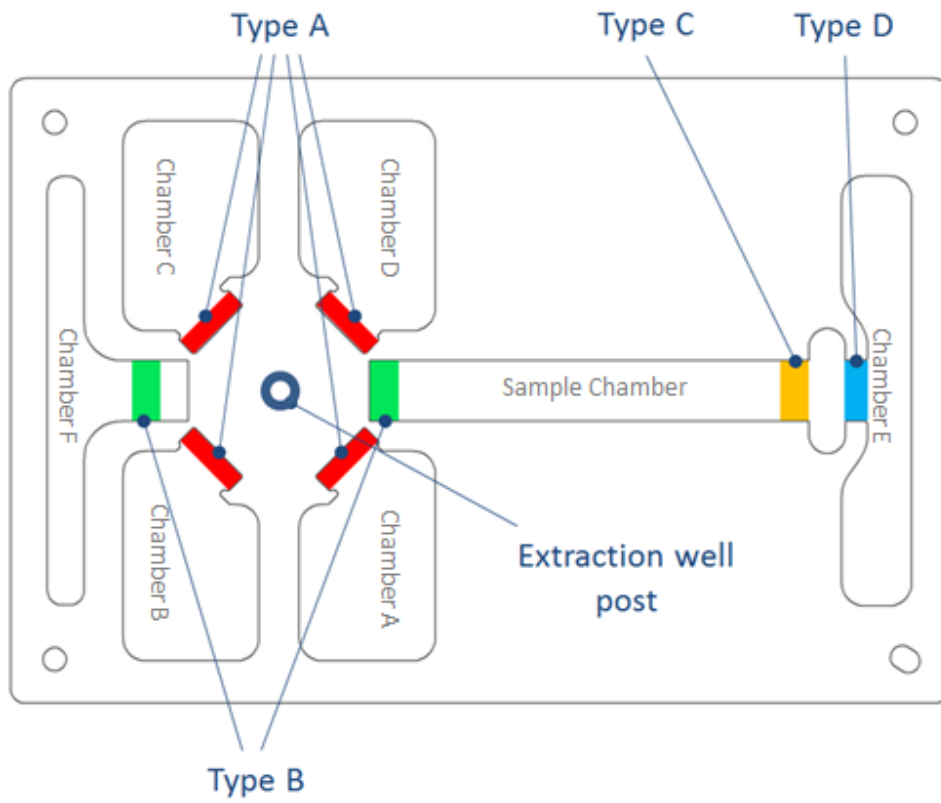
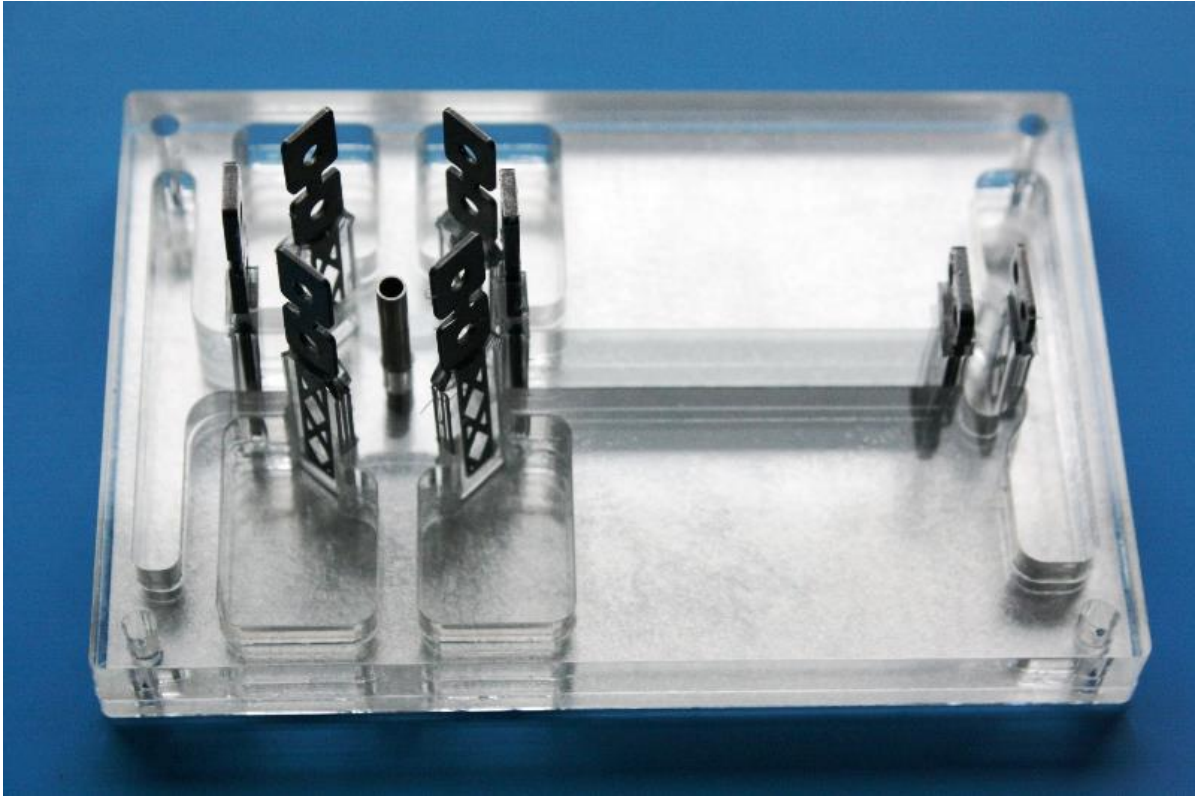

Figure 2: Cartridge showing locations of gel dams (diagram)
Figure 3: Cartridge with gel dams inserted (photograph)
Refer to Figure 2 and Figure 3 for insertion locations for each type of gel casting accessory.
- The cartridge should now resemble Figure 3. Ensure that the stainless steel tube and all the gel dams are vertical and in contact with the bottom surface of the cartridge.